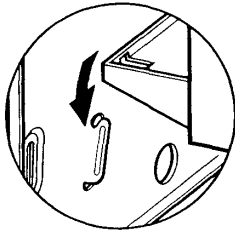

Fig. 70
1. Offer up the combustion box to the back plate and locate the rear bottom edge of the combustion box onto the self locating support at the base of the wall plate (Fig. 70).